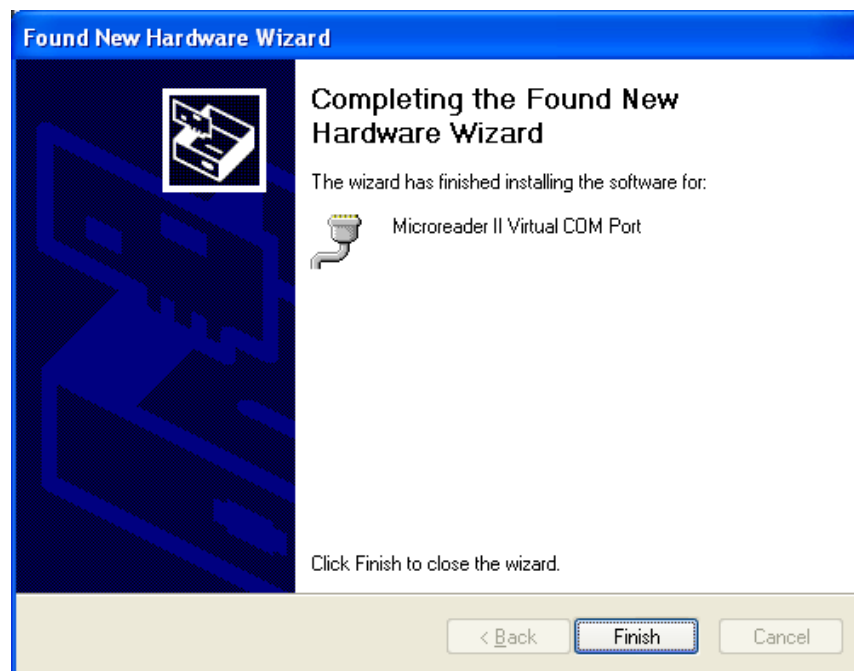

Figure 8. New Hardware Wizard, Step 4
- If Windows prompts for authentication, continue with the installation. After successful installation, the window shown in Figure 8 is displayed. Click Finish.